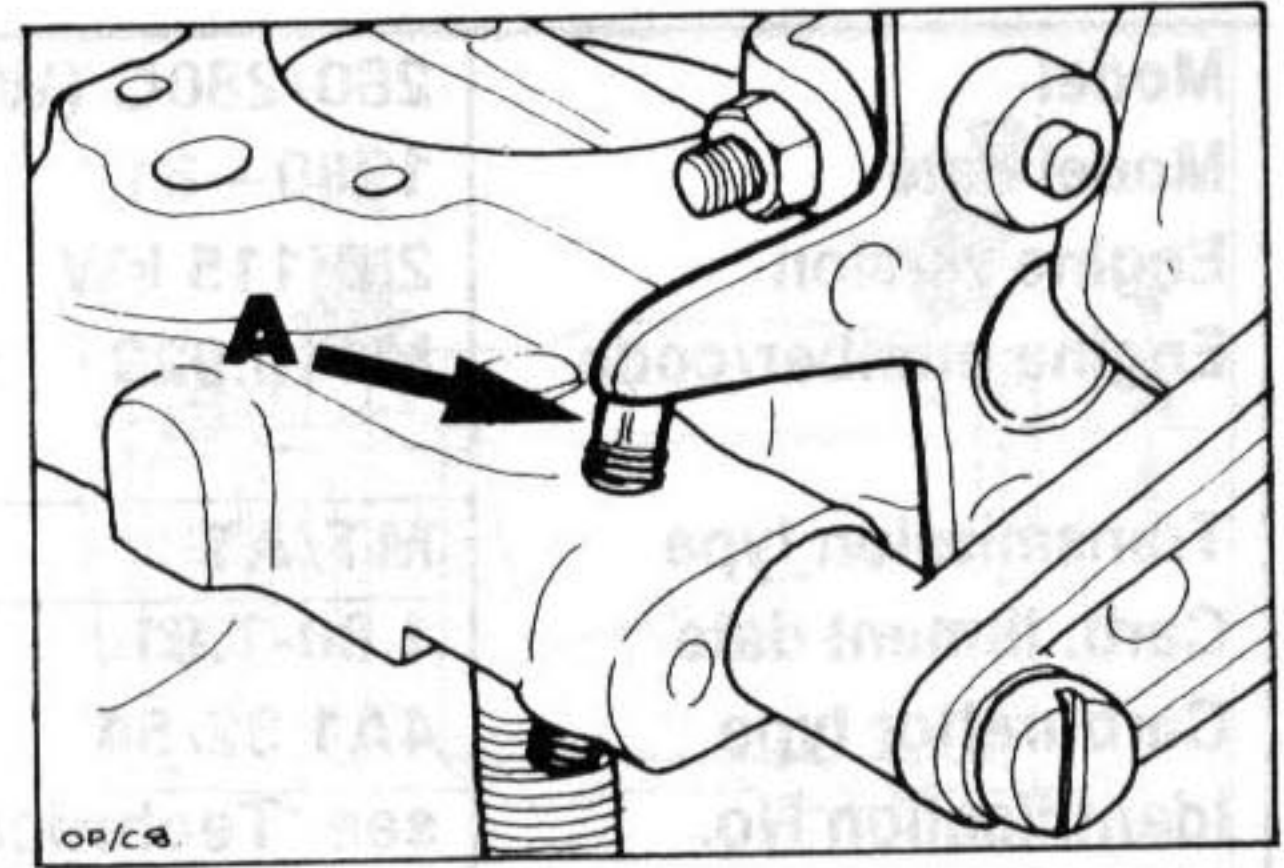

Fig. 8 Throttle stop screw (Stage II)
- Slacken stop screw (A) until it is just touching stop screw on throttle lever (Fig. 8).